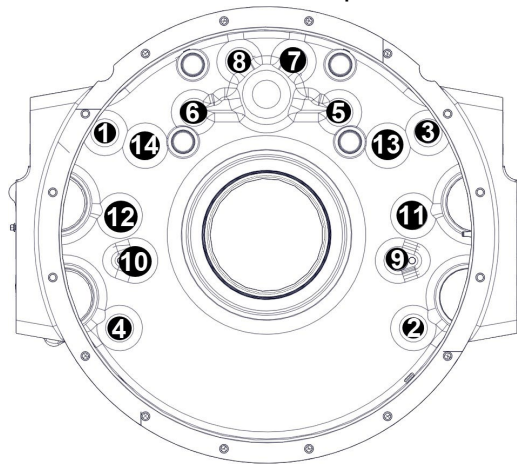

Figure 180. Flywheel Housing Bolt Sequence
10. Insert and tighten the bolts in the below sequence to 133 ft/lbs (See Figure 180).